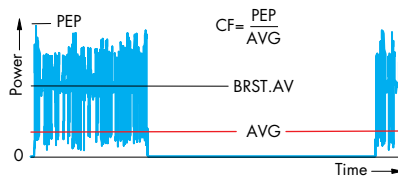

FIG 4 Definition of key power parameters for modulated RF burst (AVG: average power, PEP: peak envelope power, BRST.AV: burst average, CF: crest factor)
Directional Power Sensor NRT-Z44 measures several **parameters of modulated RF** (FIG 4): peak envelope power (PEP) provides information on the periodic peak value of output power and is thus an important quantity for describing the maximum output level of a transmitter. The same applies to the crest factor (CF), which is the ratio of PEP to average power and directly indicates substantial modulation distortion. With a suitable evaluation bandwidth (selectable in steps), both functions can be used for spread-spectrum signals up to a bandwidth of 2 MHz (CDMA, DAB) and yield satisfactory results much faster than expensive envelope analyzers.